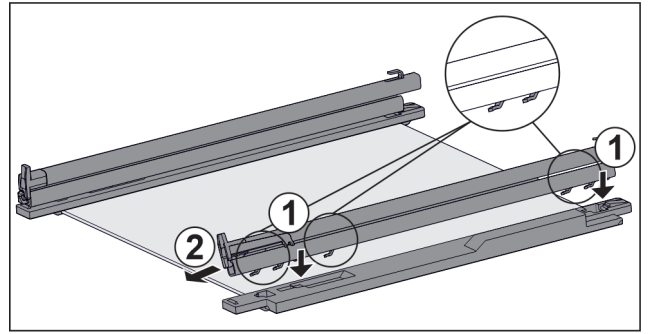

Fig. 114 Glass shelf with rails and retaining parts
- ▶ Place rail hooks onto the openings of the **left** retaining part. Fig. 114 (1)
- ▶ Push rail forwards. Fig. 114 (2)
- ▶ Place rail hooks onto the openings of the **right** retaining part. Fig. 114 (1)